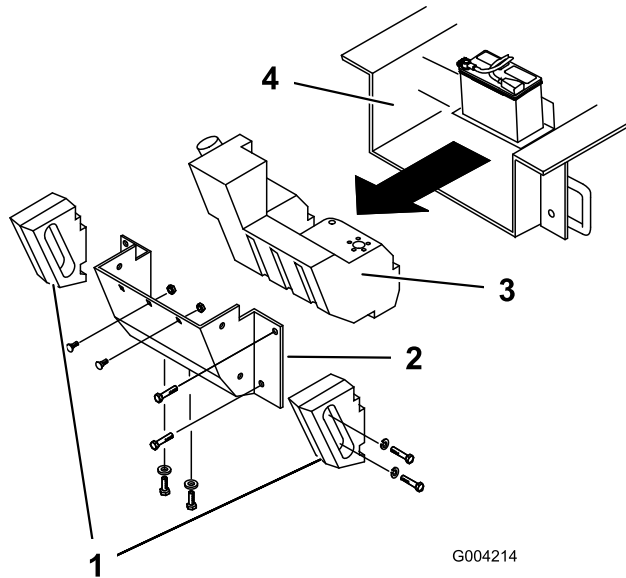

Figure 57
Over time, the chassis under the engine collects dirt and debris that must be removed. Using a flashlight, open the hood and inspect the area under the engine on a regular basis. When the debris is 1 to 2 inches deep, complete the following procedure (refer to Figure 57 throughout this procedure):
4. Remove the bolts, washers, and lock washers securing the two side weights, removing the weights (Figure 57).
7. Remove the six nuts and bolts securing the rear panel, removing the panel (Figure 57).
10. Slide the fuel tank to the rear (Figure 57).
16. Slide the fuel tank part way into the chassis (Figure 57).
21. Replace the rear panel and secure it with the six bolts and nuts removed previously (Figure 57).
23. Install the side weights with the bolts, washers, and lock washers removed previously (Figure 57).